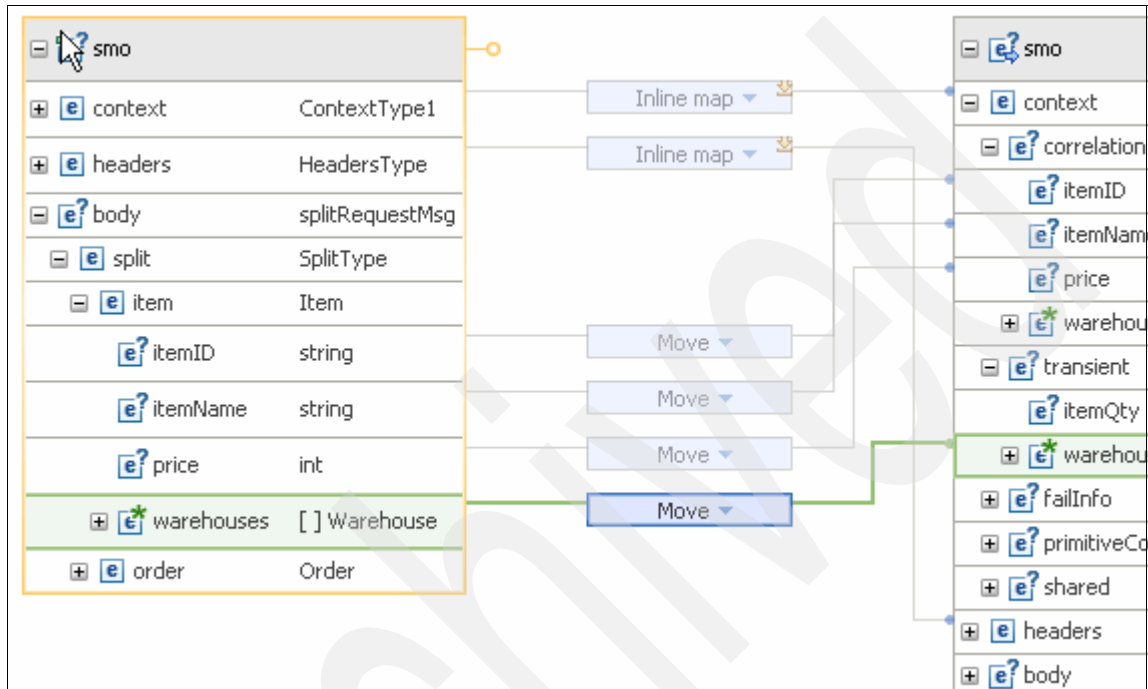

Figure 6-40 Input warehouses list mapped to the transient context
- e. Wire the warehouses array in the input message **body** → **split** → **Item** → **warehouses** to **transient** → **warehouses** in the output message as shown in Figure 6-40.